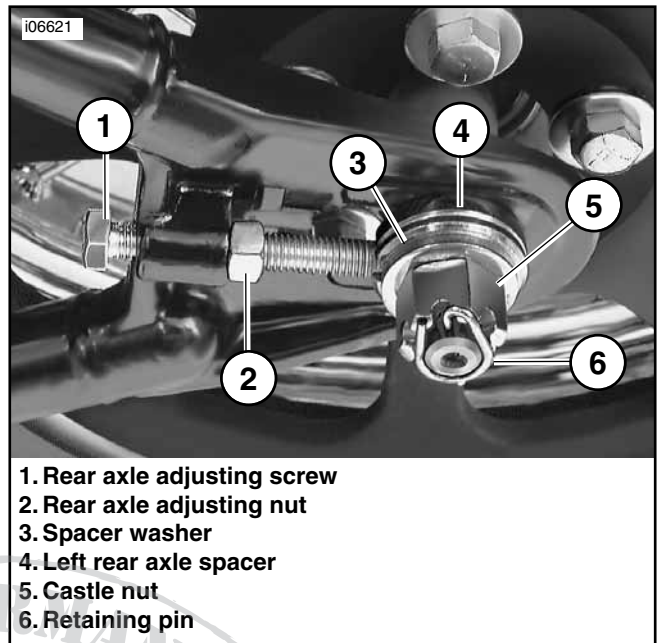
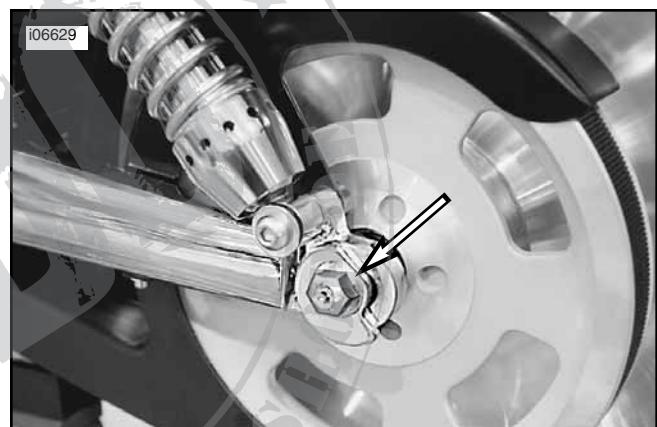

Figure 2. Softtail Rear Axle
Figure 3. V-Rod Rear Axle
2. For all models except V-Rod: See Figure 2. Remove the rear axle.
- a. Loosen the rear axle adjusting nut (2) and retract the axle adjusting screw (1).
- b. Remove the retaining pin (6), castle nut (5), spacer washer (3), and left rear axle spacer (4) from the left side of the axle.
**For V-Rod:** See Figure 3. Remove the rear axle.
3. See Figure 3. Lubricate the new steel/rubber gaskets (1) with the grade of brake fluid specified in the Service Manual. Connect the rear brake line (3) to the caliper using banjo bolt (2) and two new gaskets (1). Torque the banjo bolt to 17-22 ft-lbs (23.0-29.8 Nm).